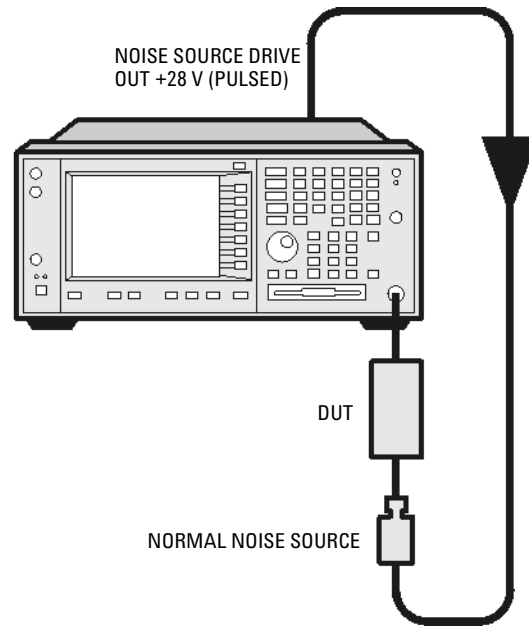

Figure 18 Connecting the DUT to make a measurement
- 3 Connect the noise source output to the DUT input as shown in Figure 18.